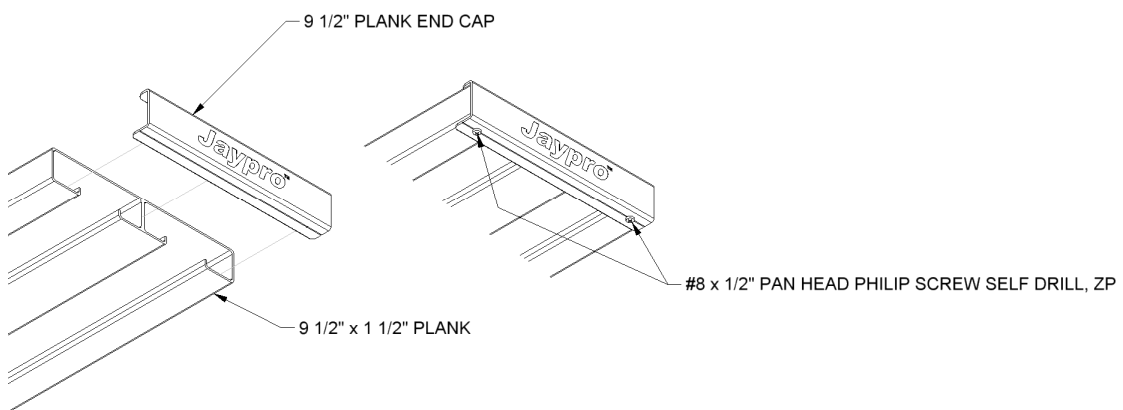

FIGURE: 3
2. Install end caps on both ends of each plank as shown in figure 3 – lightly tap on with a rubber mallet if necessary. Secure end caps in place using the #8 pan head self-drilling screws.